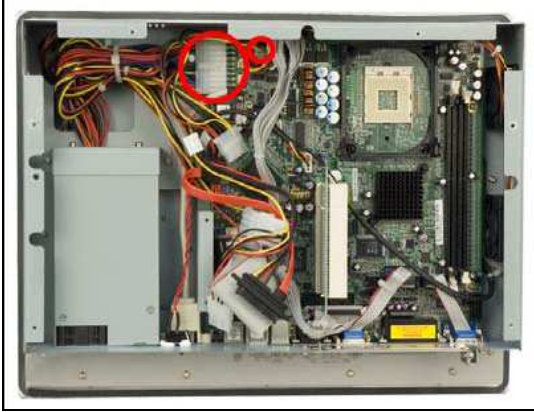

Figure 4-8: PSU Motherboard Connector
Step 4: Disconnect the PSU power cable connectors from the motherboard (**Figure 4-8**)